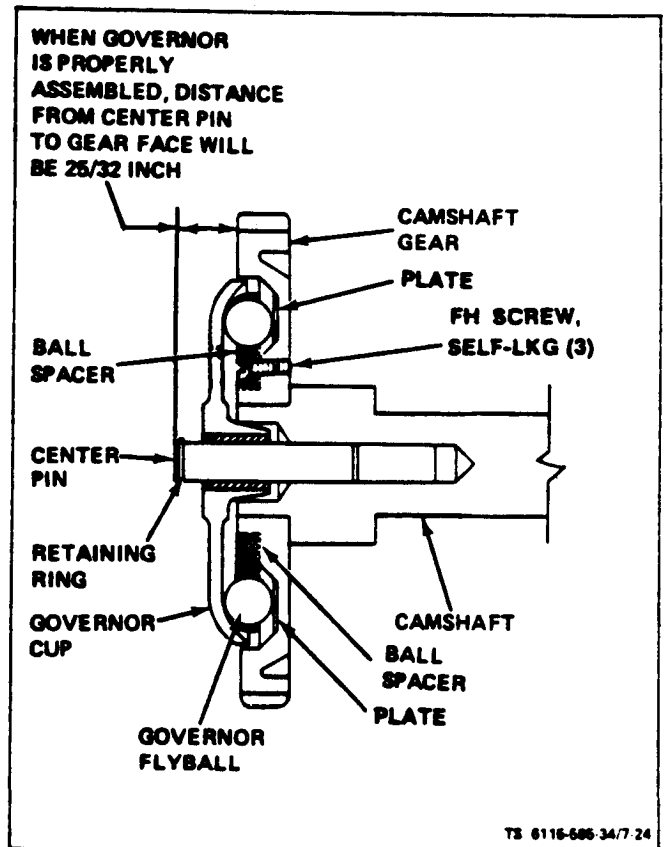

Figure 7-24. Governor Cup Assembly
a. Remove (see figure 7-24). On ASK equipped generators, refer to Operator and Organizational Maintenance Manual and remove cover assembly. Remove retaining ring from camshaft center pin and slide cup off. Be sure to catch the ten flyballs that will fall out when cup is removed.
b. Repair. Replace any flyballs that have flat spots or grooves. Replace cup if race surface is grooved or rough. The governor cup must be a free spinning fit on camshaft center pin, but should be replaced if excessively loose or wobbly. Check distance the center pin extends from the camshaft gear, this distance must be  $25/32$  inch to give proper travel distance for the cup (see figure 7-24). If it is less, the engine may race; if more, the cup will not hold the balls properly. If distance is too great, drive or press center pin in. If it is too small, replace pin; it cannot be removed without damaging the surface. If aluminum ball spacer openings are badly worn, replace ball spacer. Remove self-locking flat head screws, install new screws, ball spacer and plate.